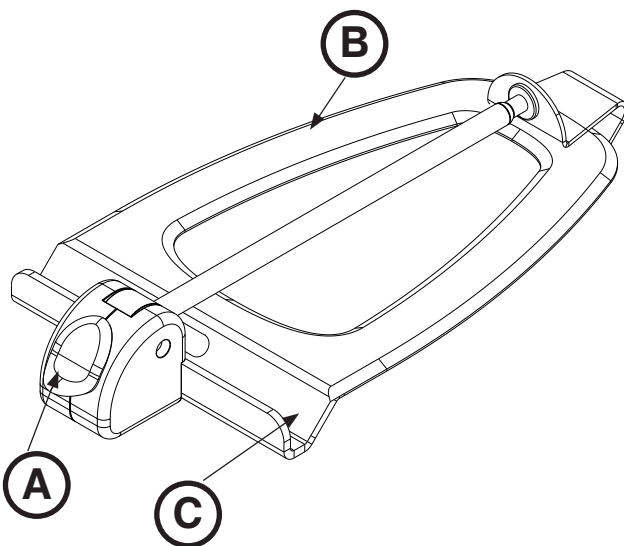

Figure 57: Lateral Cassette Holder
1. Press down on the yellow release button (A) to open the lateral cassette holder (Figure 57).
2. Slide the flat base (B) between the mattress and the patient platform (Figures 57 and 58).
4. Place the X-Ray cassette in the cassette canal (C) (Figures 57 and 58).